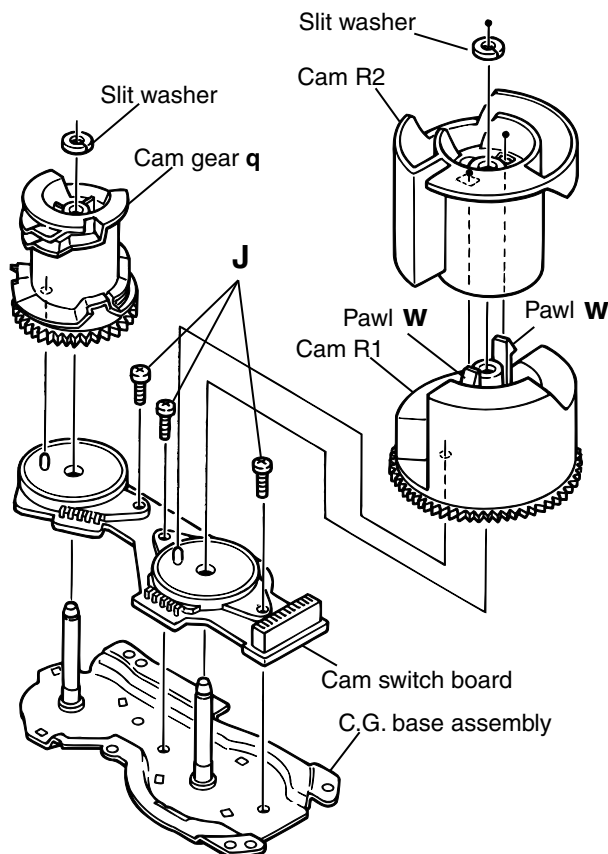

Fig.22
■ Removing the cams R1/R2 assembly and cam gear q(See Fig.22)
■ Removing the C.G. base assembly (See Fig.22 and 23)